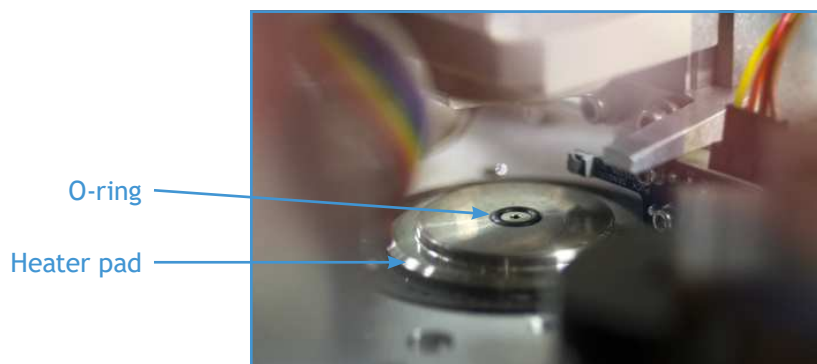

Figure 1-13: O-ring in heater pad
1. Using an inspection mirror, check O-rings located on the underside of the clamps above the processing and collection stage. Check the O-rings on the heater pads. (See Figure 1-13.) Touch them and compare them to a new O-ring. If any O-rings appear worn or hardened, replace them.